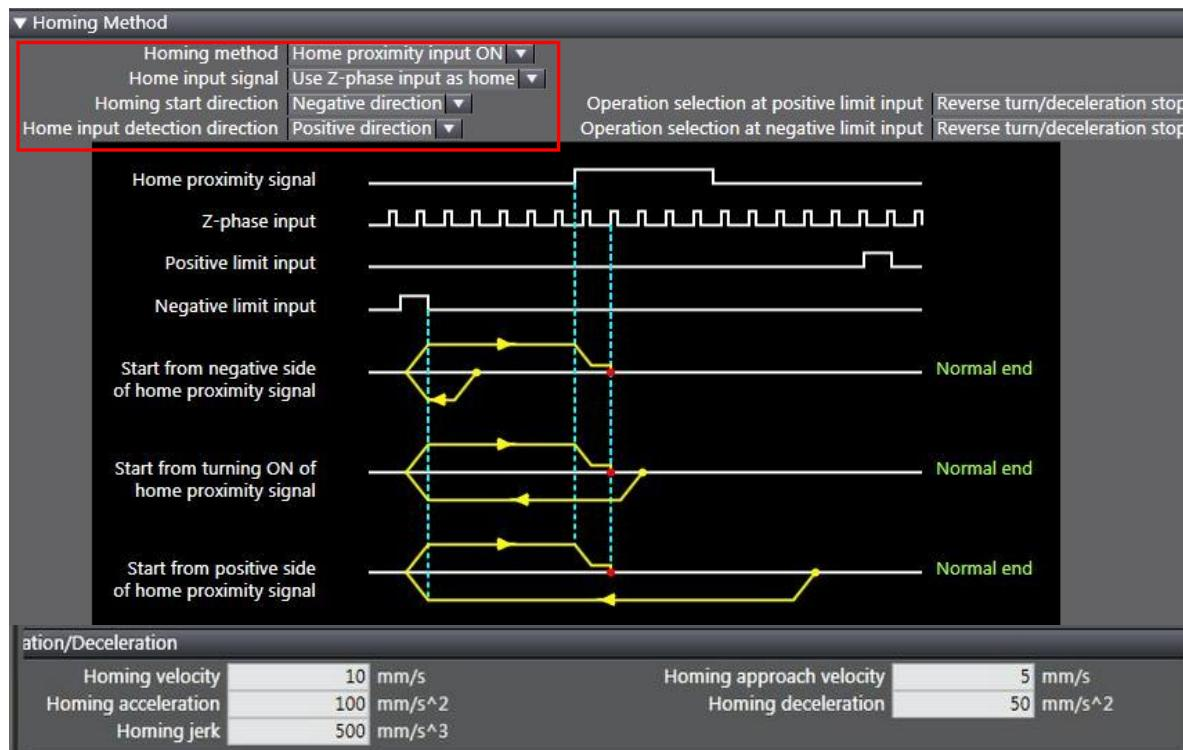

Fig. 5-48
- (6) Click the icon of “Homing Settings” (⊕) in “MC\_Axis000 (0)” tab to open the “Homing Settings” page. Set homing method, homing velocity, and homing acceleration based on the actual demand. In the example of Fig. 5-48, “Homing method” is set to be “Home proximity input ON” and “Home input signal” is set to be “Use Z-phase input as home”.